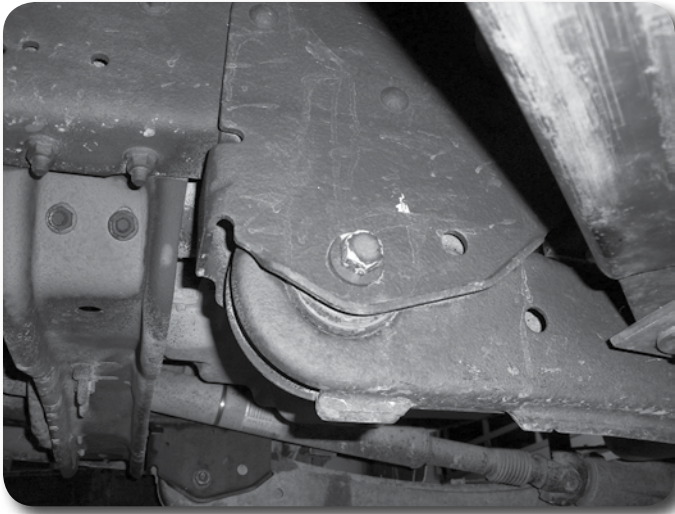

Figure 11
18. Starting with the passenger's side, remove the upper radius arm mounting bolt at the axle. It may be necessary to temporarily remove the shock from the axle mount to remove the bolt. Remove the radius arm bolt at the frame **Figure 11** and lower the radius arm from the frame bracket. Save hardware.